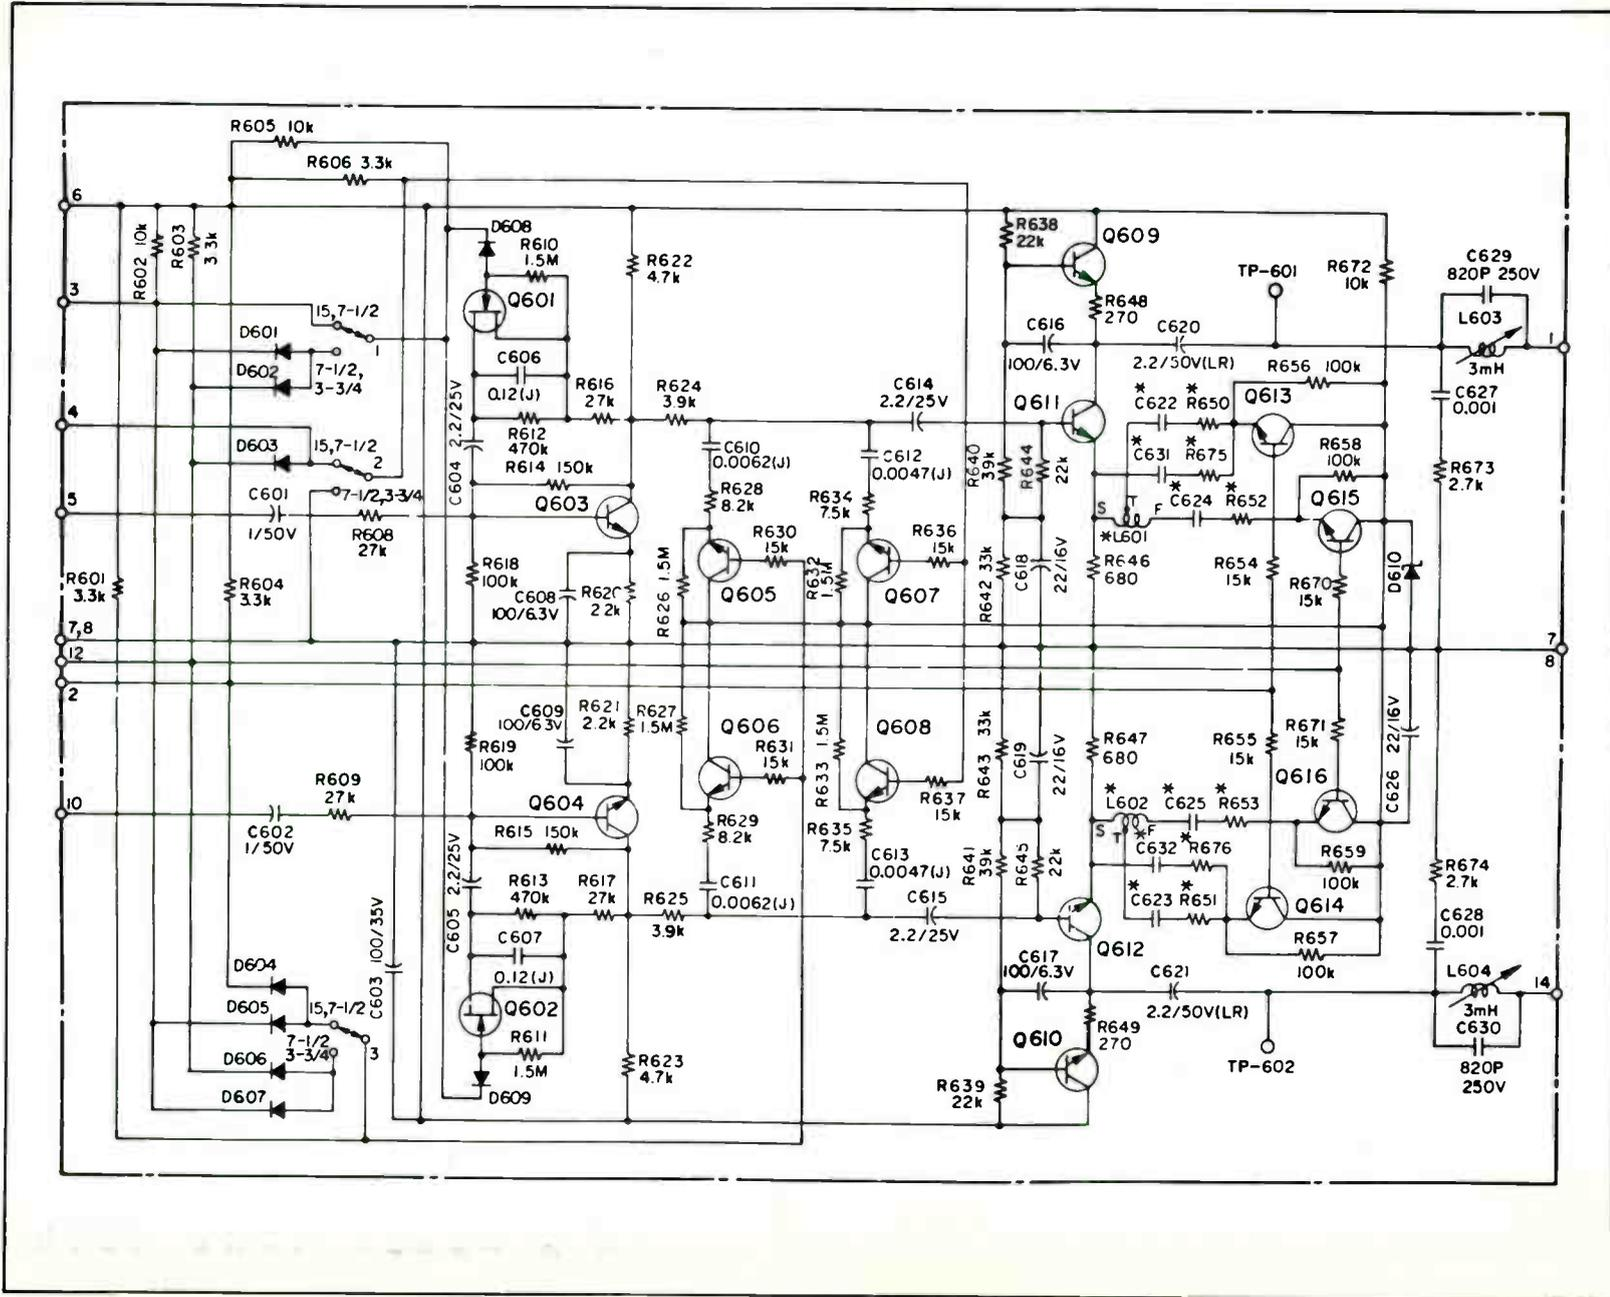

Figure 4-13. Record Amplifier Schematic
**4-24. Record Amplifier.** Refer to schematic, Figure 4-13. The record amplifier is made up of the following two circuits: